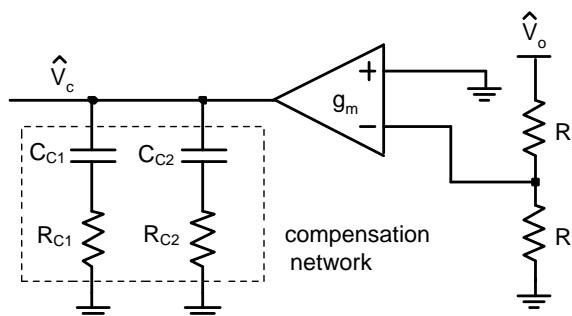

Figure 19. Compensation Network
- 1 and R2 are the feedback resistors as shown in Figure 19
The compensation network (Figure 19) will also introduce a low frequency pole which will be close to 0Hz.
A second pole should also be placed at fz. This pole can be created with a single capacitor Cc2 and a shorted Rc2 (see Figure 19). The minimum value for this capacitor can be calculated by: